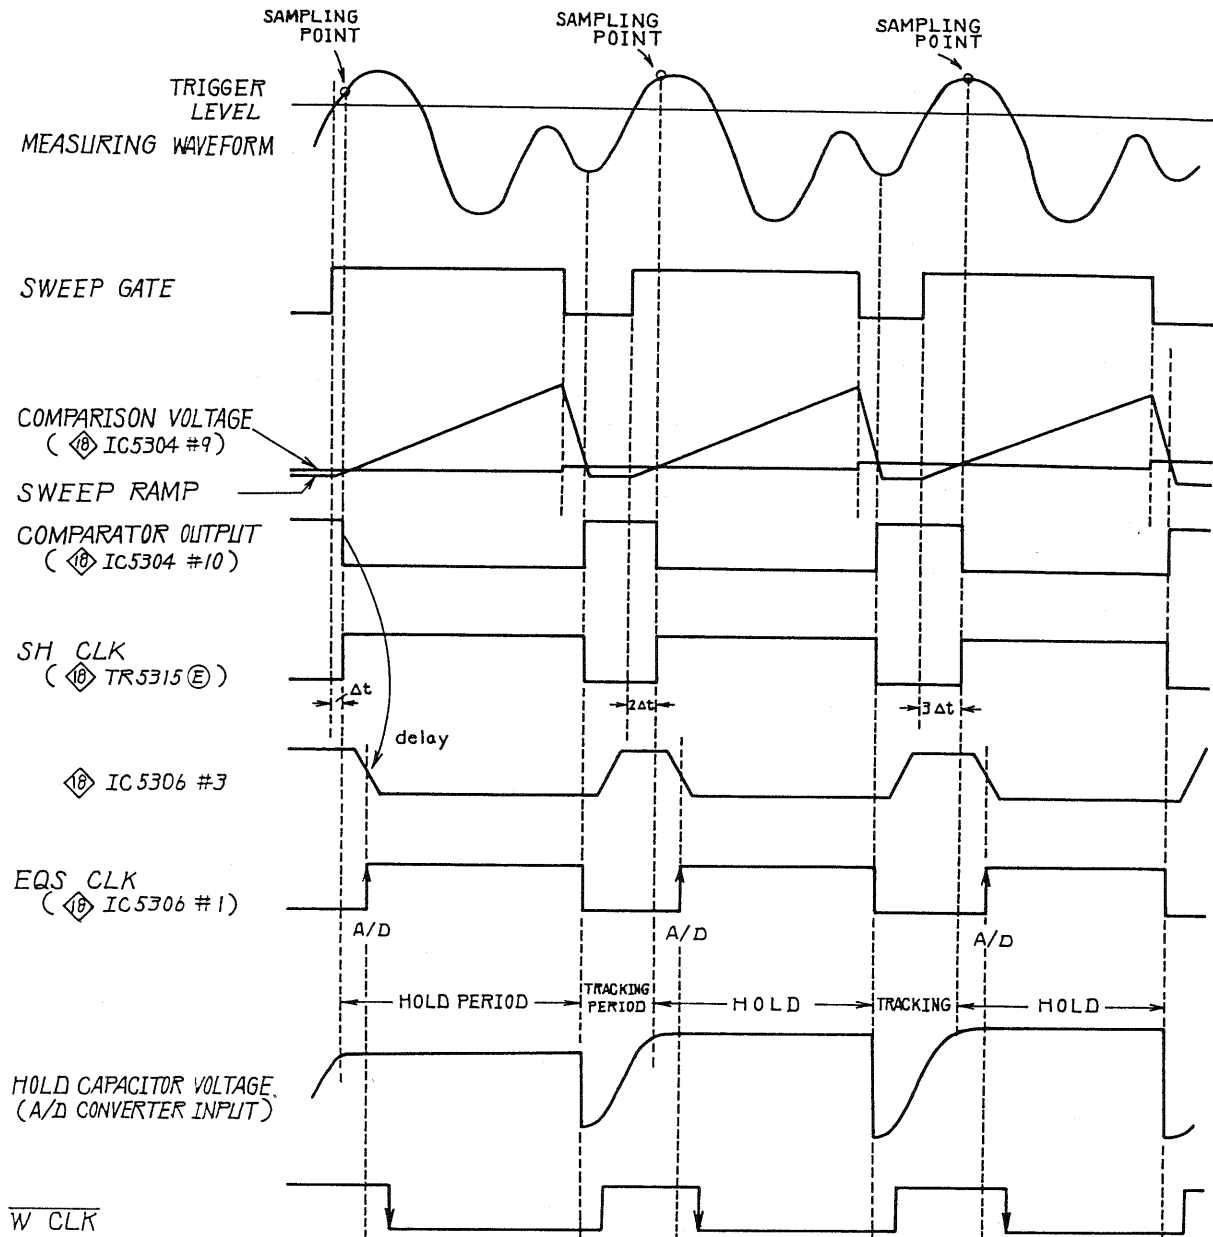

Fig. 5-24 Equivalent time sampling
chart Fig. 5-24, signal route diagrams Figs. 5-25 (a) to (h), ROLL mode diagram Fig. 5-26, and Tables 5-6 to 5-10.
5.14.2 Equivalent sampling pulse generator circuit (Refer to Fig. 5-28 and Fig. 5-24.)
The counter output is converted into the analog signal by D/A RM5301, and fed to the \oplus input terminal of COMPARATOR IC5304 via AMP IC5303. This \oplus input voltage increases every sweep. On the other hand, the SWEEP RAMP signal as shown in Fig. 5-24 is fed to the \ominus input terminal.